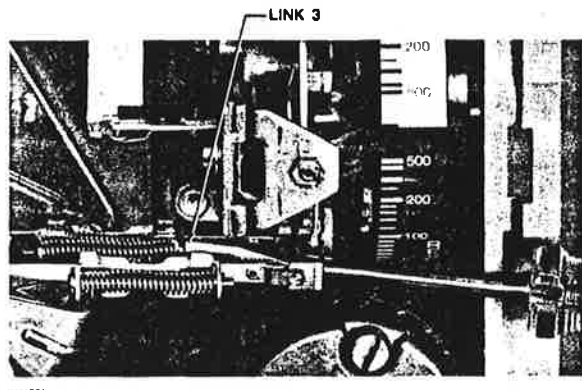

Figure 6-14. Link Number 3 Adjustment
b. If screw number 3 protrudes further than screw 1, turn the adjusting screw in link number 3 clockwise. See figure 6-14 for adjustment.